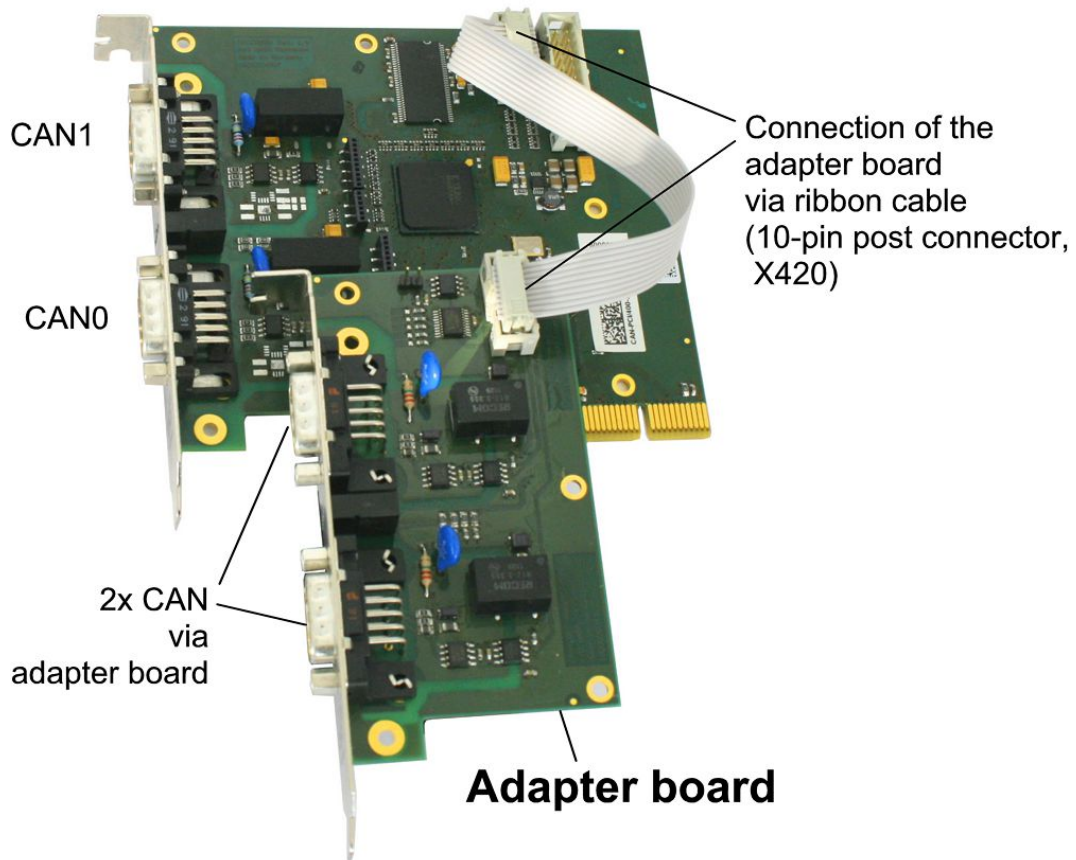

Figure 3: View of CAN-PCI/400-4 with ribbon cable
8. If you are installing the CAN-PCI/400-4 module with 4 CAN interfaces you have to install the adapter board in the PCI slot next to the CAN-PCI/400 board. Connect the two boards with the included ribbon cable (see figure 3 on page 12) via the 10-pin post connectors on the board and on the adapter.